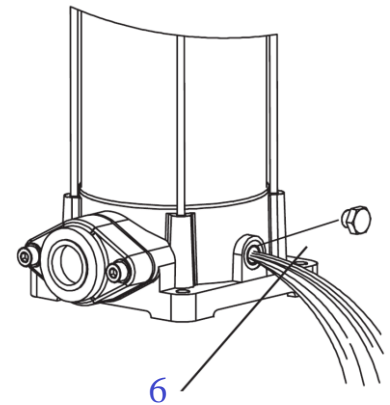

Fig. 5
- **During long periods of inactivity:** Turn off the pump's power supply if it will not be in use for an extended period. Drain the pump by remove the drain plug (6). See Fig. 5 for illustration.